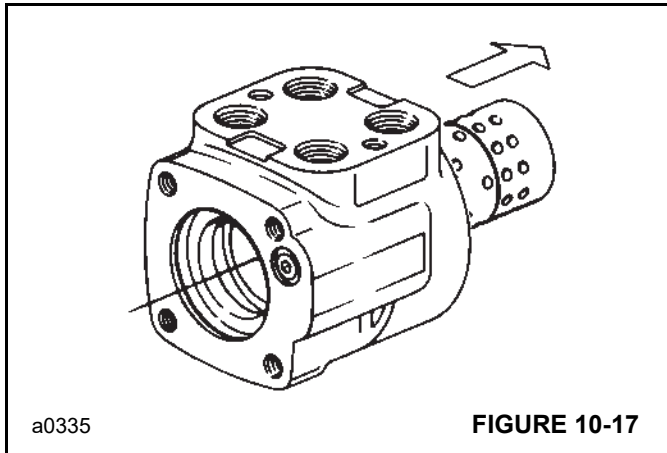

FIGURE 10-17
10. Remove spool and sleeve assembly, 10 through 12, (Figure 10-13). Remove from rear end of housing (Figure 10-17).